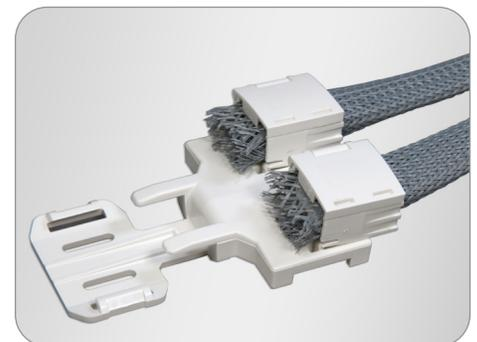

Figure 23
1. Cut mesh to length, leaving at least 1/2" beyond the clip for retention (Figure 23).